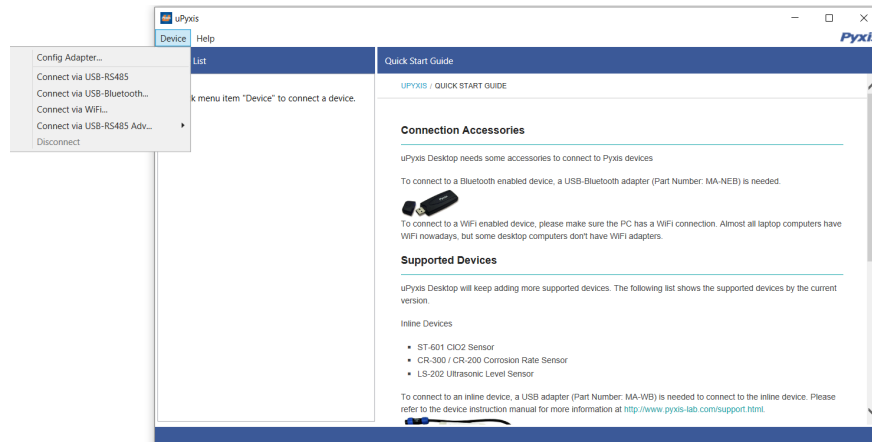

Figure 13.
3. On **uPyxis®** Desktop App, click Device → **Connect via USB-Bluetooth** or **Connect via USB-RS485** (Figure 13).
4. If the connection is successful, the HM-500 Series and its Serial Number (SN) will be displayed in the left pane of the **uPyxis®** window.